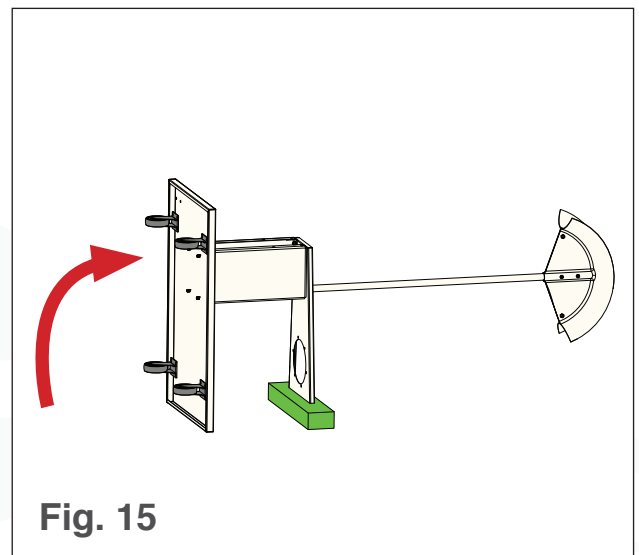

Fig. 15
2. Place a piece of foam packaging over the wide end of the lid holder, then rotate the Trim Saver 90° so it rests on the foam (see Fig. 15).